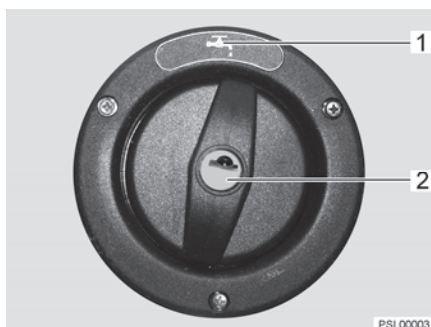

Fig. 71 Cap for the drinking water filler neck
The drinking water filler neck is indicated by the symbol "🚰" (Fig. 71,1). The cap is opened and closed using the key for the external flap locks.
- Insert key into locking cylinder (Fig. 71,2) and turn a quarter turn in an anticlockwise direction.
- Open drinking water filler neck (Fig. 71).